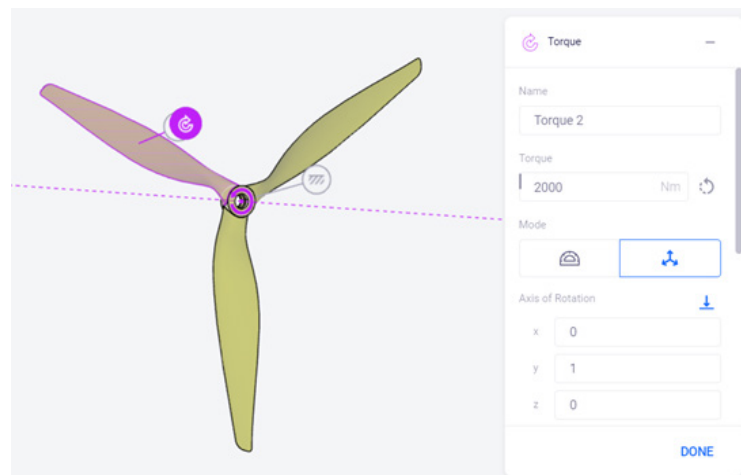

Figure 5: Using the Torque tool on one of the blades
Step 2: Select the torque tool and apply a load of 2000Nm on one of its blades. Provide the desired direction vector as shown in the Figure 5.